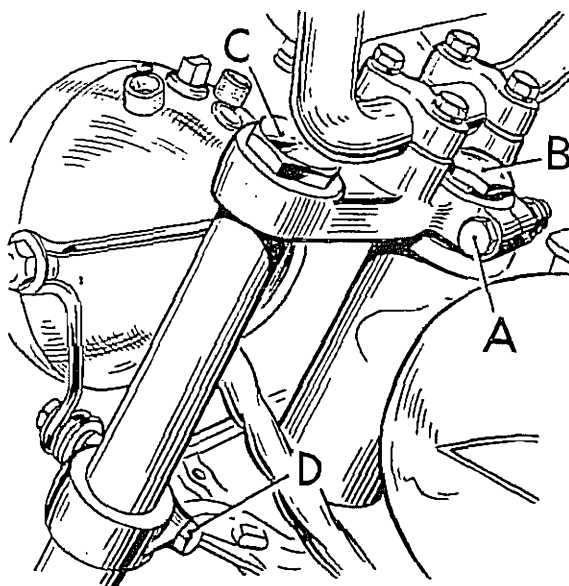

FIG. E2. *Steering head adjustment.*
To adjust the steering head bearings, slacken off the pinch bolt (A). Using a ring spanner, turn the nut (B) in a clockwise direction to reduce play or anti-clockwise to increase play (see Fig. E2).
Take off the handlebars and lay them on the petrol tank, which should be protected with a piece of cloth. Slacken the pinch bolt (A) and remove the adjuster nut (B) Fig. E2. Using service tool No. 60-0779, remove the top nuts (C). This operation will also release the instruments, which must be supported to avoid damage. Using a hide-mallet, strike the sides of the top yoke alternately from below, to release it from the tapered stanchions.
Fit a new inner race to the bottom of the steering column. Grease the bearing rollers and reassemble the column into the steering head. Grease the rollers of the upper inner race and slide it into position from the top of the column. Add the dust cover, replace the top yoke and tighten the adjuster nut B, Fig. E2, making final adjustment as described on page E2.
If necessary the fork stanchions may now be removed from the yokes. Remove the headlamp (see page D10), slacken the top yoke pinch bolt ("A", Fig. E2) and remove the adjuster nut "B". Using a hide mallet strike the top yoke from below at each side alternately to release it from the tapered stanchions. When the top yoke is free, the forks and steering head may be completely dismantled.
To remedy this condition slacken off the two bottom yoke pinch bolts ("D", Fig. E2) and the stem sleeve nut pinch bolt ("A", Fig. E2) and give point C, Fig. E10, a sharp blow using a lead hammer or a hammer used in conjunction with a soft metal drift.